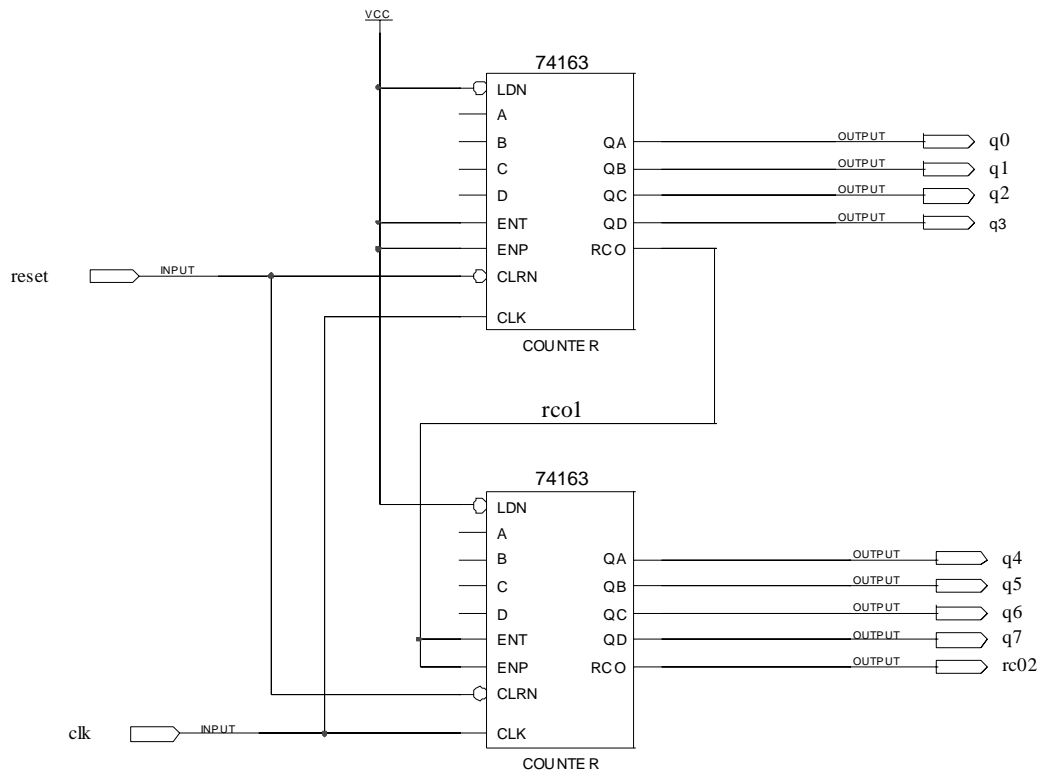

FIGURE 1. Simple 8-bit Counter
- Wire the two 74163 components into an 8-bit counter circuit as shown in Figure 1.
- Place **input** and **output** components on the schematic as shown in Figure 1. You'll find input and output components in the "primitives->pin" library.
- Label the RCO output which connects to the ENT and ENP inputs of the other 74163 component as "rco1" as shown in Figure 1. We want to label this internal net so that we can view a trace of this signal during simulation.
- Label the input and output pins by double-clicking the LMB on PIN_NAME and typing the name for each pin as shown in Figure 1.